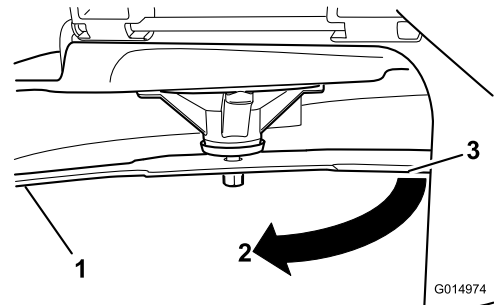

Figure 43
3. Measured distance between blade and the surface (A)
4. Rotate the same blade 180 degrees, so that the opposing cutting edge is now in the same position (Figure 43).